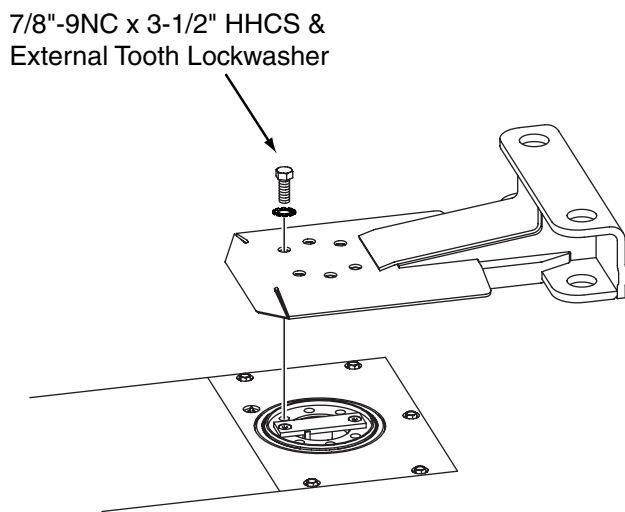

Fig. 22
**19. Setting Cover; refer to Fig. 22:**
1. Install yokes to plungers with 7/8"-9NC x 3-1/2" HHCS and lock washer. Torque to 150 ft-lbs., Fig. 22.